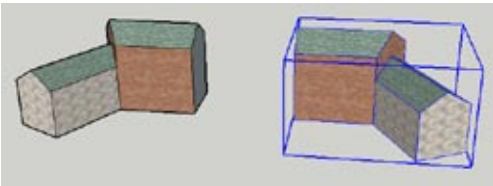

Figure 7-34
3. Keep the copied component selected and activate the Scale tool. Turn the copy inside out by dragging a center-side handle through the component, stopping when the Scale value is  $-1$  (Figure 7-34).